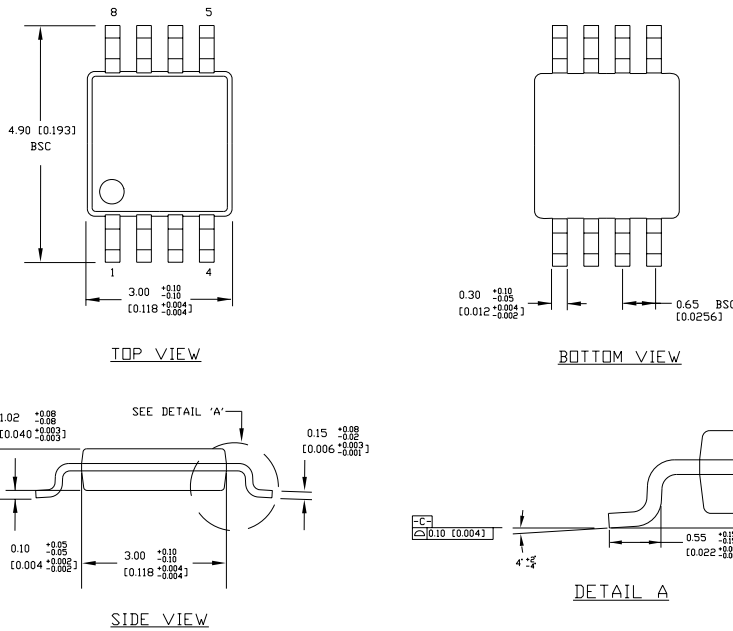

Figure 7. V_{DD} Decoupling for Very Noisy Supplies
7. When the MIC284 is being powered from particularly noisy power supplies, or from supplies which may have sudden high-amplitude spikes appearing on them, it can be helpful to add additional power supply filtering. This should be implemented as a 100 Ω resistor in series with the part's VDD pin, and a 4.7 μ F, 6.3V electrolytic capacitor from VDD to GND. See Figure 7.